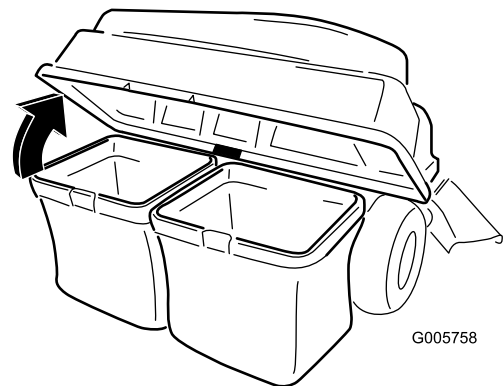

Figure 28
- Open (raise) the bagger top (Figure 28).